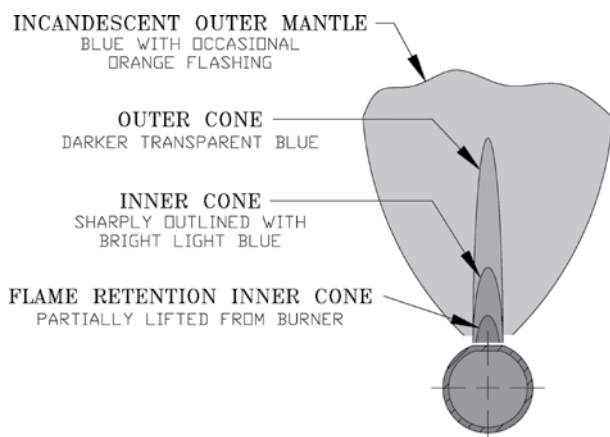

Figure 10- a
5. Adjust gas input rate. See Appendix F – *Adjusting Gas Input Rate*. Check main burner and pilot flames. See Figures 10-a and 10-c.
6. Disconnect pilot lead wires from gas valve (Figure 10-b).